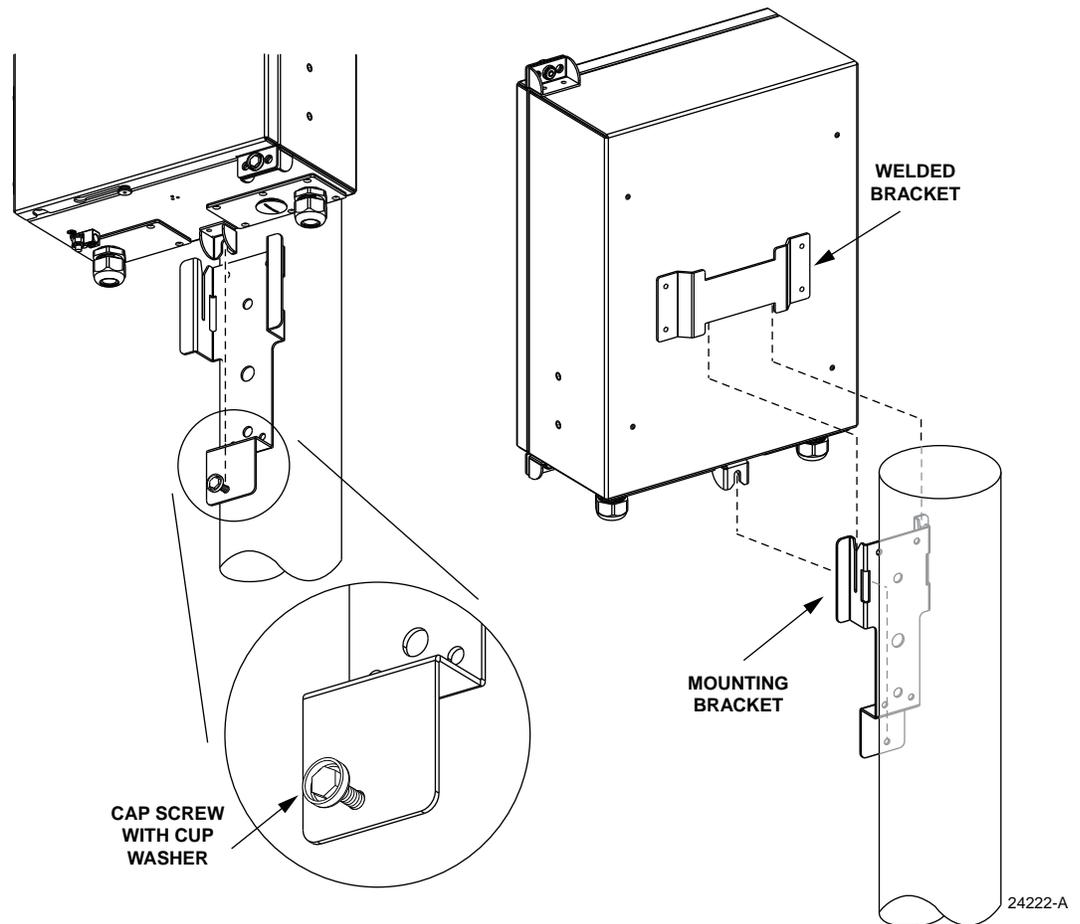

Figure 8. Installing Cabinet on Pole-Mounted Bracket
6. Hang the cabinet from the installed mounting bracket. The welded bracket on the back of the cabinet, shown in Figure 8, fits into the two slots at the top of the mounting bracket. The partially installed cap screw at the bottom of the mounting bracket fits into the slotted tab at the bottom of the cabinet.